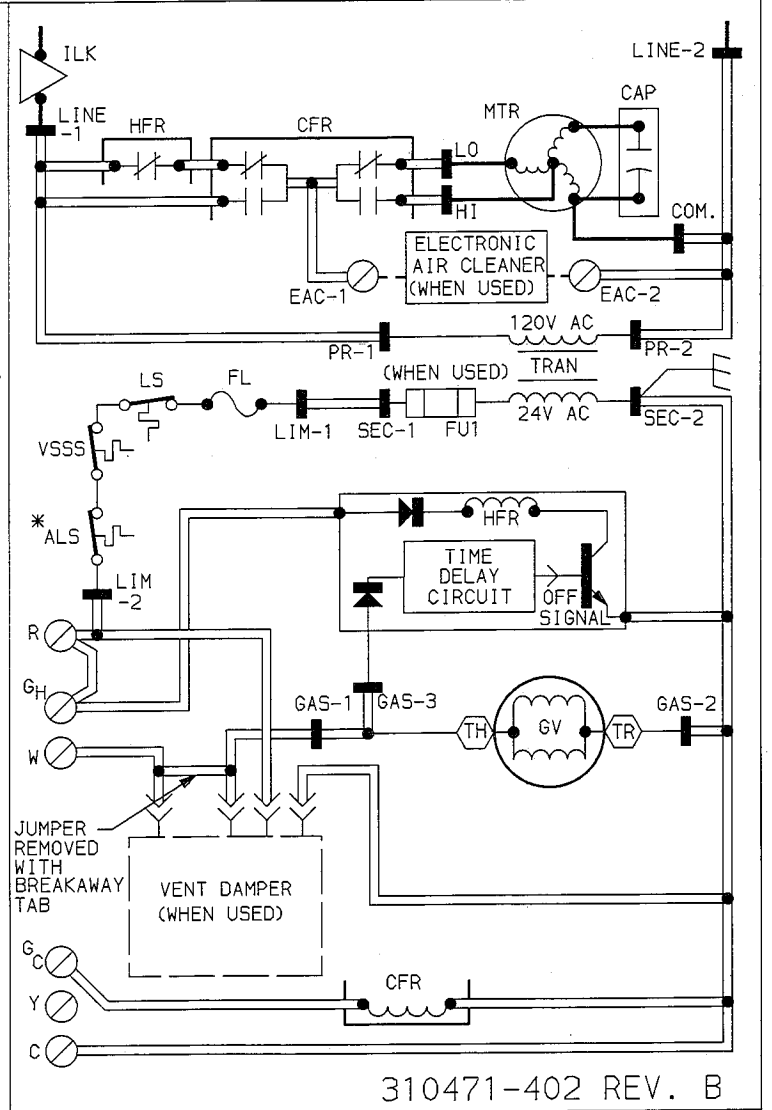

Fig. 11—Wiring Diagram (Match-lit Pilot)
2. Honeywell VR 800A Gas Valve (Match-Lit Models). See Fig. 11